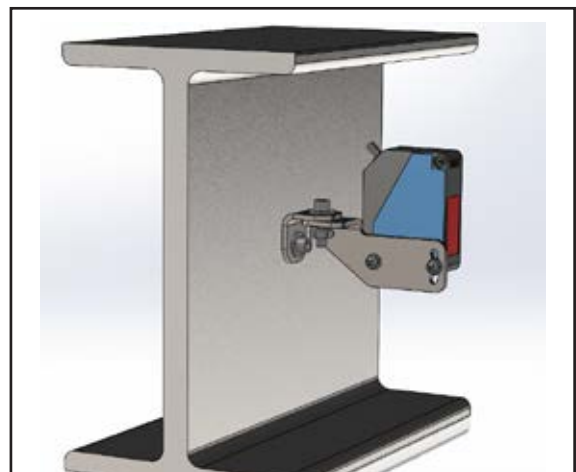

Figure 6-2 Sensor Mounting
1. Mount sensor in desired location and make adjustments appropriate to your specific assembly. See **Figure 6-2**.